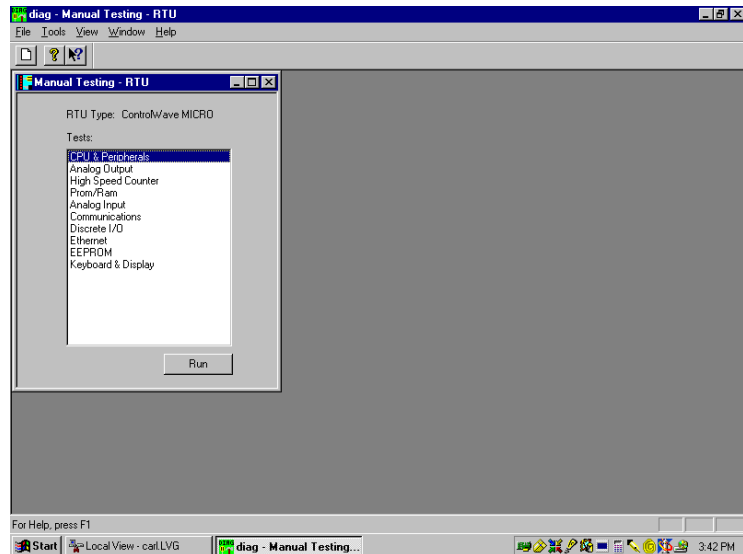

Figure 5-11. WINDIAG Main Diagnostics Menu
2. Select **Start > Programs > OpenBSI Tools > Common Tools > Diagnostics**. The Main Diagnostics menu (Figure 5-11) displays.
Using WINDIAG, you can test all EFM modules with the exception of the SCM. WINDIAG's Main Diagnostics Menu (see *Figure 5-11*) provides the following diagnostic selections: